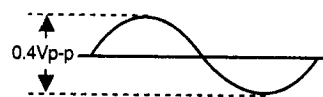

Figure 12 SOUND OUTPUT ADJUSTMENT
D) Adjust the Sound Right and Left (Refer to Fig. 12)